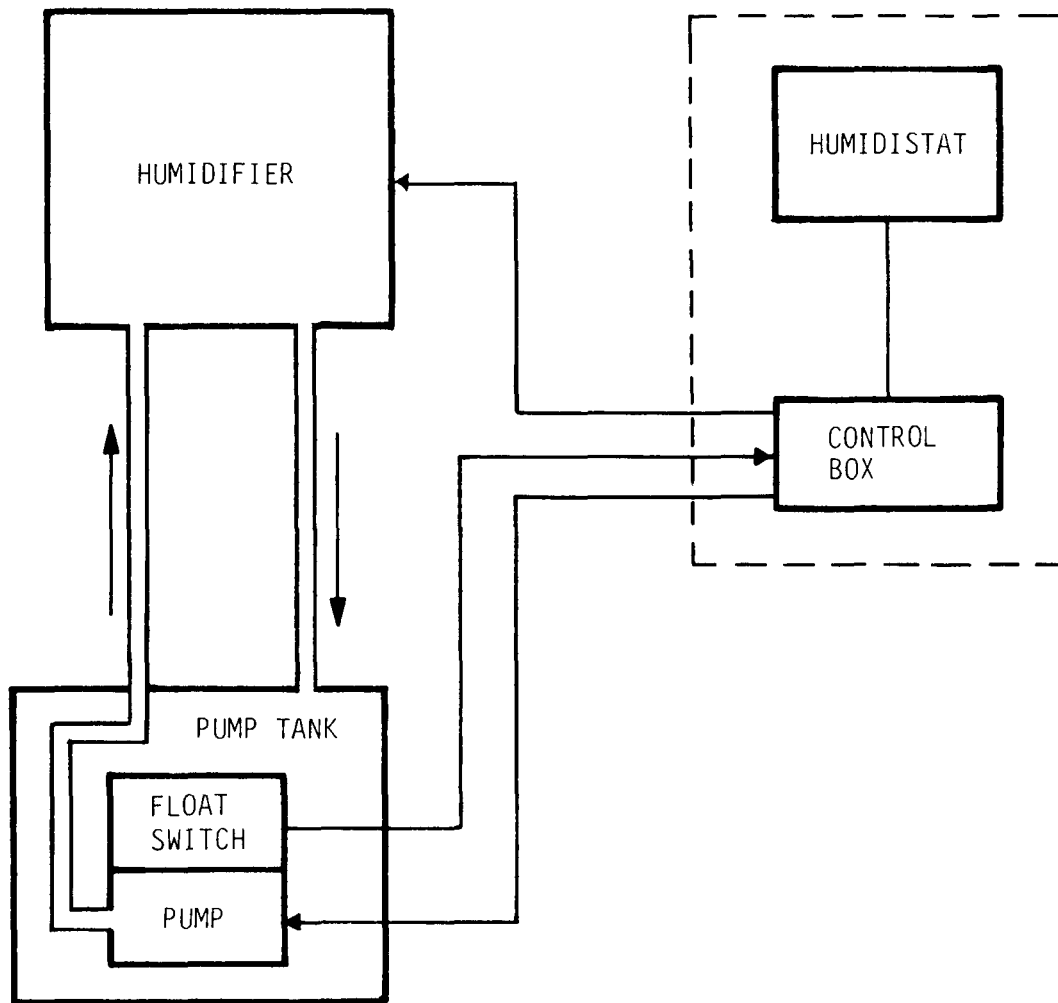

Figure 2-12. Humidifier System
(1) Placing the rotary unit-selector switch in HI HEAT position energizes six heating elements. Three of these elements are controlled by the thermostat and three are directly connected. The fan is automatically energized. High or low fan speed may be selected. When air temperature goes over the set point of the thermostat, only the three heating elements controlled by the thermostat are deenergized. The other three are powered as long as the switch is in HI HEAT position.
(2) In LO HEAT position, only the three thermostatically controlled heating elements are energized. When temperature rises above the thermostat set point, these elements are cut off and no heat is generated until the temperature falls below the set point. The fan continues to operate at all times.
(3) In VENTILATE position, only the fan motor operates at selected speed.
(4) In COOL position, the fan is on all the time, and the compressor motor contactor is energized. The contactor supplies power to the compressor through the circuit breaker. After the compressor starts, refrigerant flow is controlled by a thermostat. When temperature rises above thermostat set point, a thermostat contact opens, setting the compressor bypass valve for cooling service. The compressor and fan motor operate continuously. Cooling action is controlled by opening a bypass valve, causing all the refrigerant to flow through the evaporator coil, where cooled air is blown into the van. When temperature falls below set point, the bypass valve is closed and the major part of the compressed refrigerant is bypassed directly back to the input (suction) side of the compressor.
(5) In OFF position, all power is removed from the air conditioner.
b. Humidifier. The van's humidity level is automatically maintained by a system which includes a humidifier, a control box, a humidistat, a pump tank with a submersible pump, and tubing to carry water between the humidifier and the pump tank (fig. 2-12).
(1) The humidistat is operator-set for the desired relative humidity. It senses the amount of moisture in the air, closes its contacts if there is too little, then reopens them when there is enough. The humidistat is mounted on the control box, which also includes a power ON-OFF toggle switch, a horn, an indicator, and control circuitry.
(2) Power to the humidifier is routed through relay circuits in the air conditioner temperature control panel. Therefore, the humidifier will not power ON if all air conditioners are OFF. To operate the humidifier, the ON-OFF toggle switch on the humidifier control panel must be set to ON and at least one air conditioner powered on (in any mode). If the pump tank has enough water in it and the humidistat is set high enough to close the contacts, the aspirator motor and the water pump will now run.
(3) The pump pumps water to the humidifier tank. The tank gradually fills to the overflow line. Excess water returns to the pump tank where it cools the pump before recirculating.